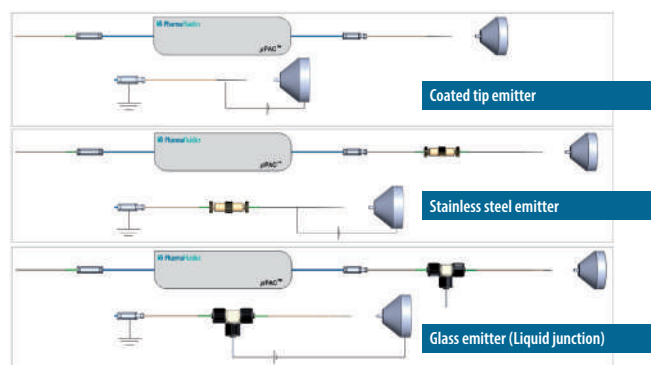

Figure 2: Overview of grounded electrospray ionisation interfaces
- Connect the outlet (i.e., the stainless-steel reducing union) to a grounded point on the mass spectrometer or the chassis of the HPLC. Grounding for three different electrospray ionisation configurations is shown in Figure 2.